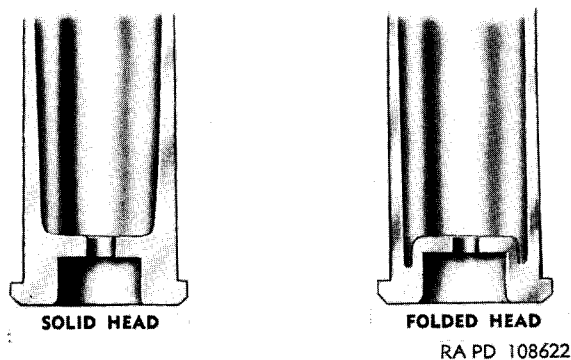

Figure 13. Types of cartridge case heads.
a. *Classification.* Small-arms cartridge cases are either of the centerfire or rimfire type (fig. 2). Centerfire cases are rimmed, semi-rimmed, or rimless (fig. 2) and have either solid or folded heads (fig. 13). Semirimmed and rimless cases always have solid heads, whereas rimmed cases used for low pressure loading may have either solid or folded heads.